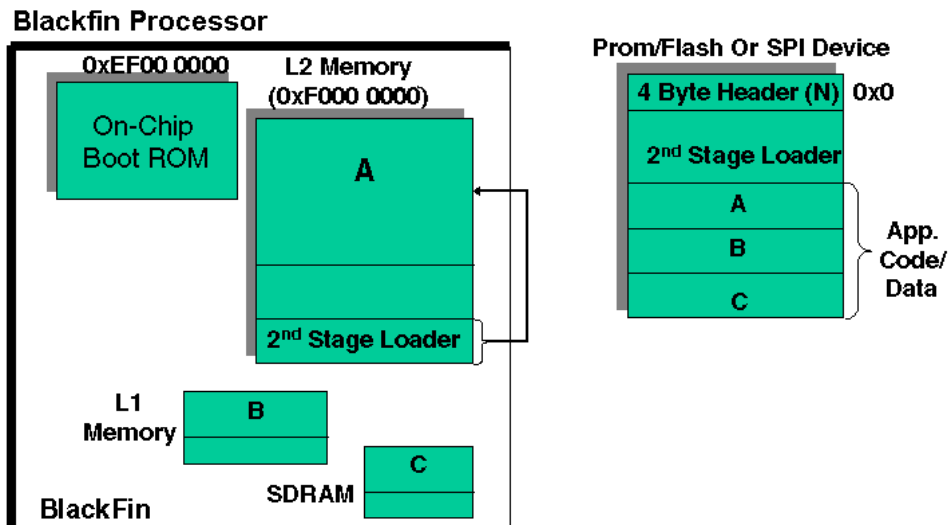

Figure 5-7. Boot Kernel Loader Jumps to the Start of L2 Memory
4. Finally, after booting, the second-stage loader jumps to the start of L2 memory (0xF000 0000) for application code execution (Figure 5-7).